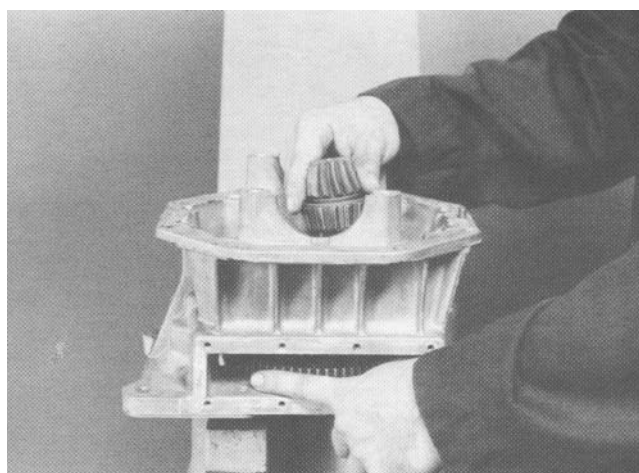

Figure 29
6. Insert the spur gear into the front housing with the chamfered area of the center spline toward the pinion gear. Tap the pinion gear with a soft mallet to engage the splines in the spur gear (Fig. 29).